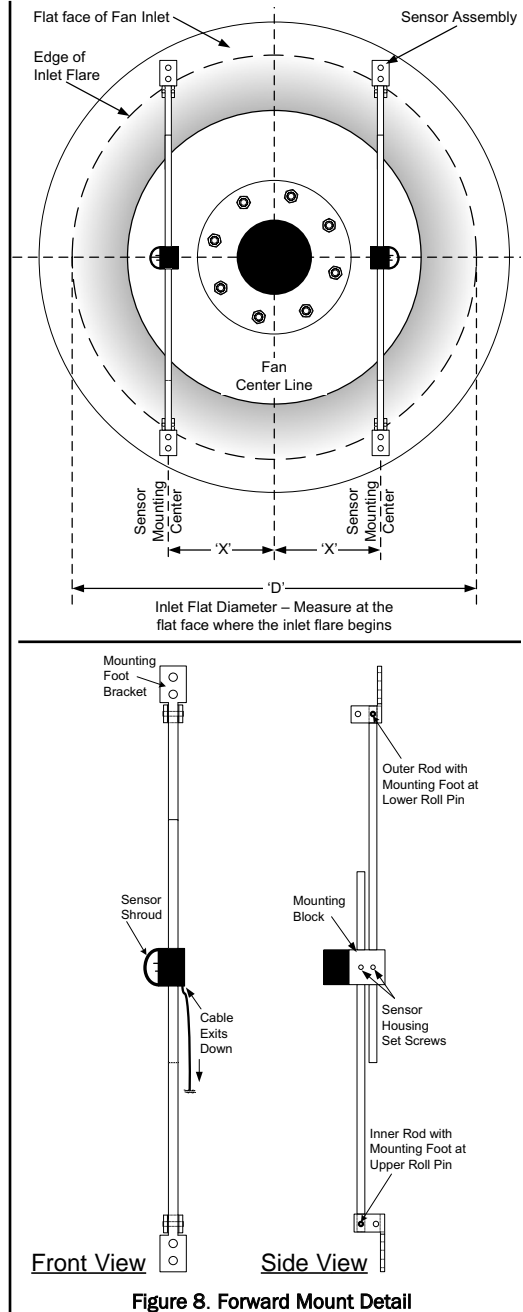

Figure 8. Forward Mount Detail
2. Use the hex wrench provided to loosen the sensor housing set screws on the sensor mounting block as shown in Figure 8.
3. Using sensor marked "INSIDE LEFT", insert an inner mounting rod (with mounting bracket attached at inner roll pin) into sensor mounting block inner rod hole with sensor oriented as in Fig. 8.
4. Insert outer mounting rod (with mounting bracket attached at outer roll pin) into sensor mounting block outer rod hole (Figure 8).
5. Using sensor marked "INSIDE RIGHT", repeat steps 3 and 4 with sensor shroud oriented to the right (opposite) as in Figure 8.
7. Using Diameter 'D', locate DIMENSION 'X' in Table 6 to determine the fan inlet center to sensor center line for each sensor as shown in Figure 8.
9. Install sensor assembly labeled "INSIDE LEFT" at the left side of the flat face of the fan inlet as in Figure 8. Use suitable hardware for installation that does not hinder rotation of the fan.
10. Install sensor assembly labeled "INSIDE RIGHT" at the right side of the flat face of the fan inlet as in Figure 8. Use suitable hardware for installation that does not hinder rotation of the fan.
Refer to detail in Figure 8 for "D" Inlet Diameter and "X" distance between fan center line and sensor center line.